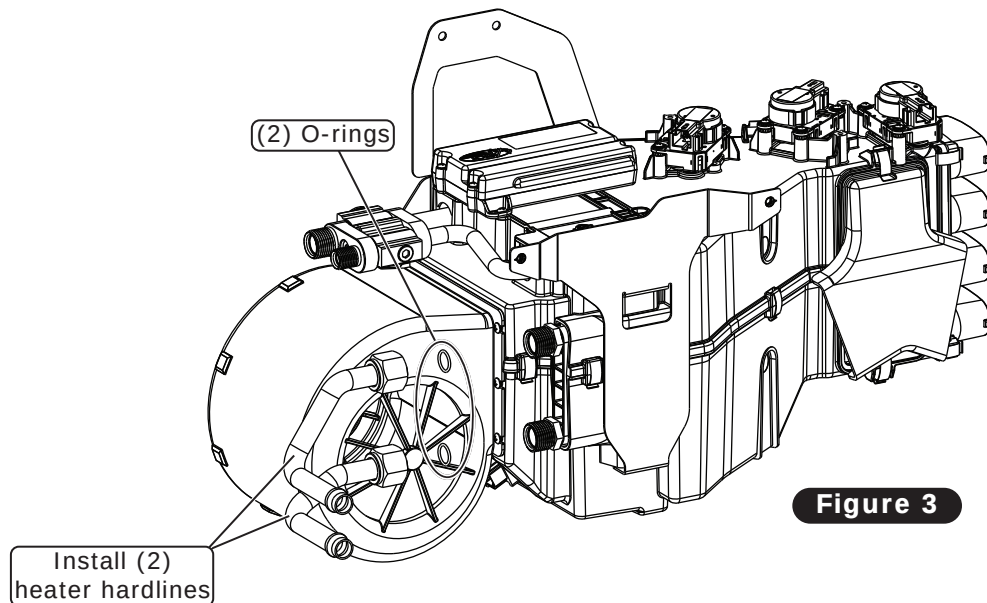

Figure 3
8. Install the (2) heater hardlines with properly lubricated O-rings (See Figure 3, below and Lubricating O-rings, Page 14). **NOTE: When removing caps from the module, be careful! The module is shipped under pressure.**